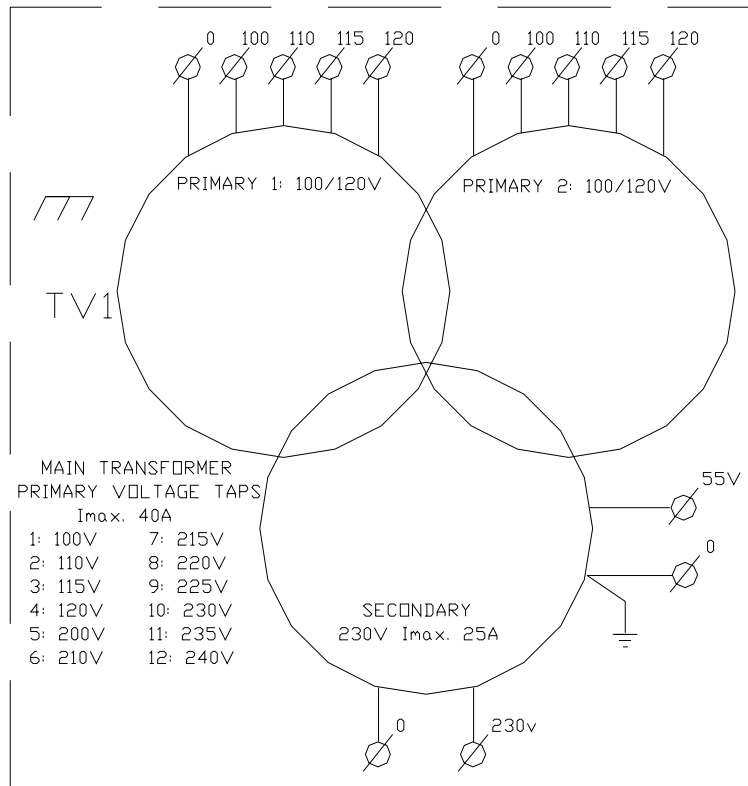

Figure 2.26 Universal Transformer Wiring Diagram (General)
It achieves this by using a universal transformer. See Figure 2.26.
2. Adjust the **Transformer** as shown in Figure 2.26. **It is the responsibility of the installation personnel to ensure the correct voltage is selected.**